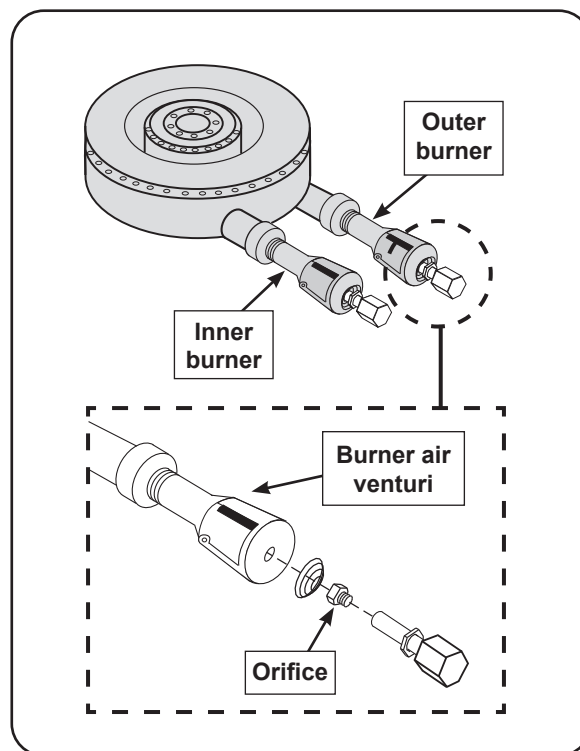

Fig. 49-1 Burner orifice orientation
2. Locate the orifices. The orifice size is stamped on each orifice face (see Fig. 49-1).